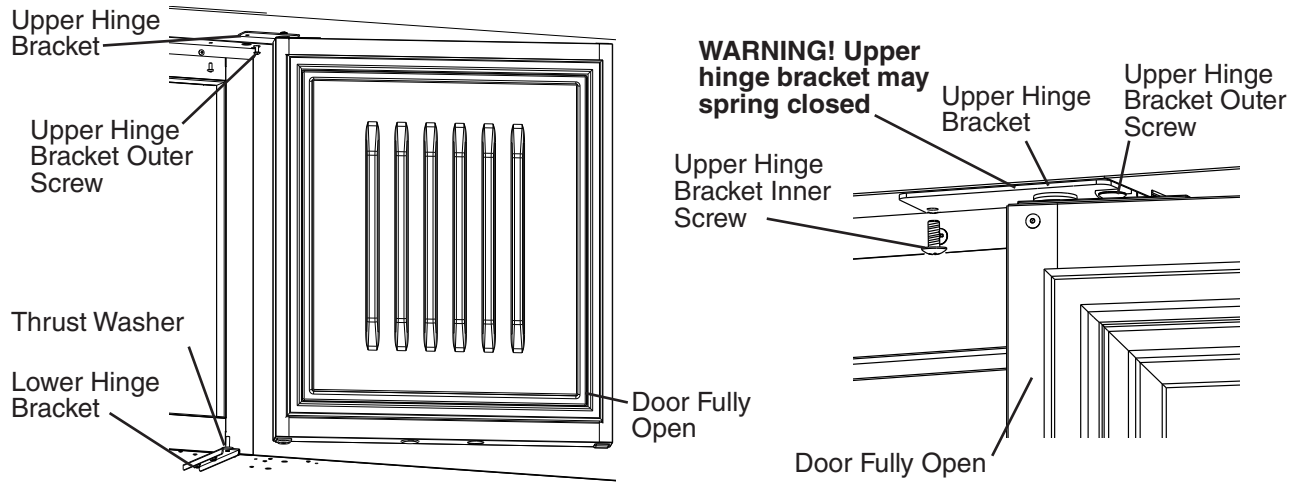

Fig. 29
- 17) Be sure the lower hinge bracket thrust washer is in place, then place the door on the lower hinge bracket in the fully open position. Slide the door upper hinge bracket outer slot onto the upper hinge bracket outer screw. See Fig. 29.